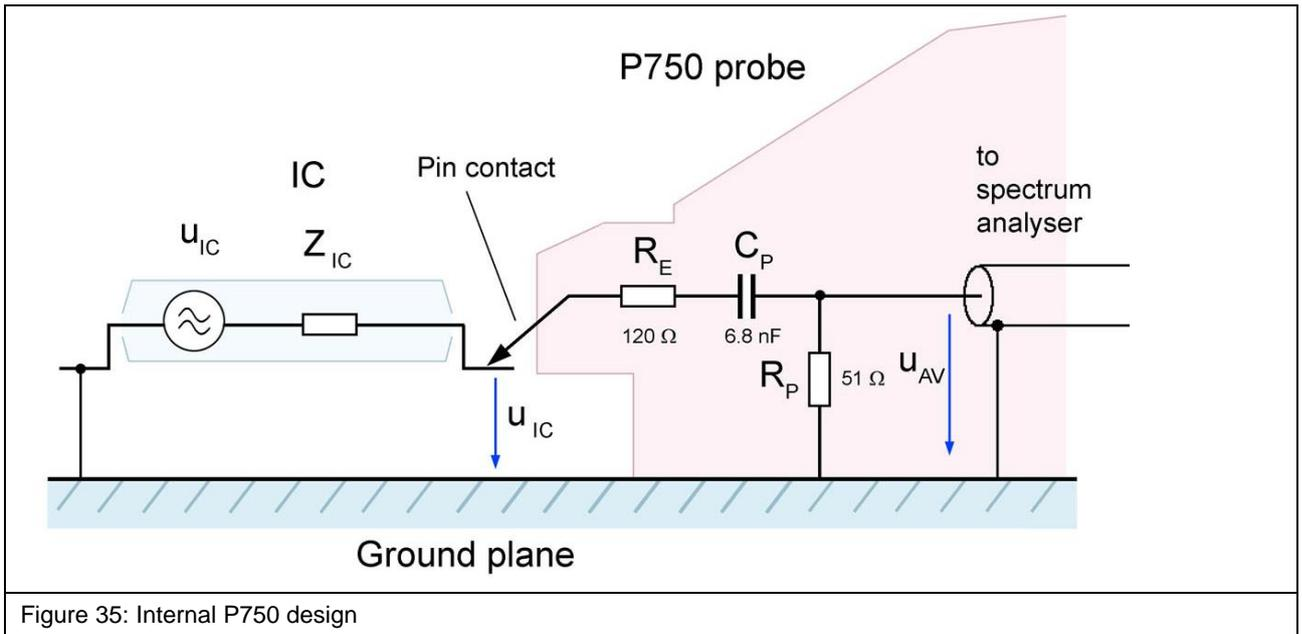

Figure 35: Internal P750 design
**Figure 35** shows the equivalent circuit diagram of the **P750** probe. The matching network comprises a 120 Ohm – 51 Ohm voltage divider and a 6.8 nF coupling capacitor. The pin contact of the probe has to be brought into contact with the respective test IC pin to perform the measurement. Please refer to the “ICE1 user manual” and “IC test instructions”1.